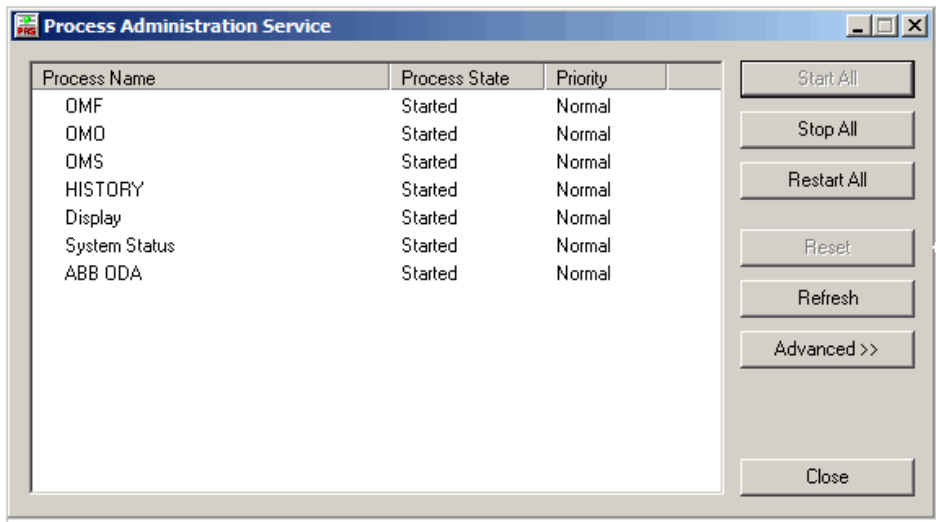

Figure 317. PAS Main Window
1. From the Windows task bar, choose **Start>Settings>Control Panel>Administrative Tools>PAS>Process Administration**. This displays the main PAS window, Figure 317.